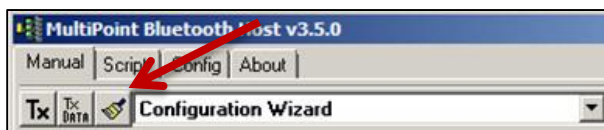

Figure 27: Configuration window drop-down
2. Click the dropdown box (Figure 27) and select **Information**.
3. Click **Tx** (Figure 27).